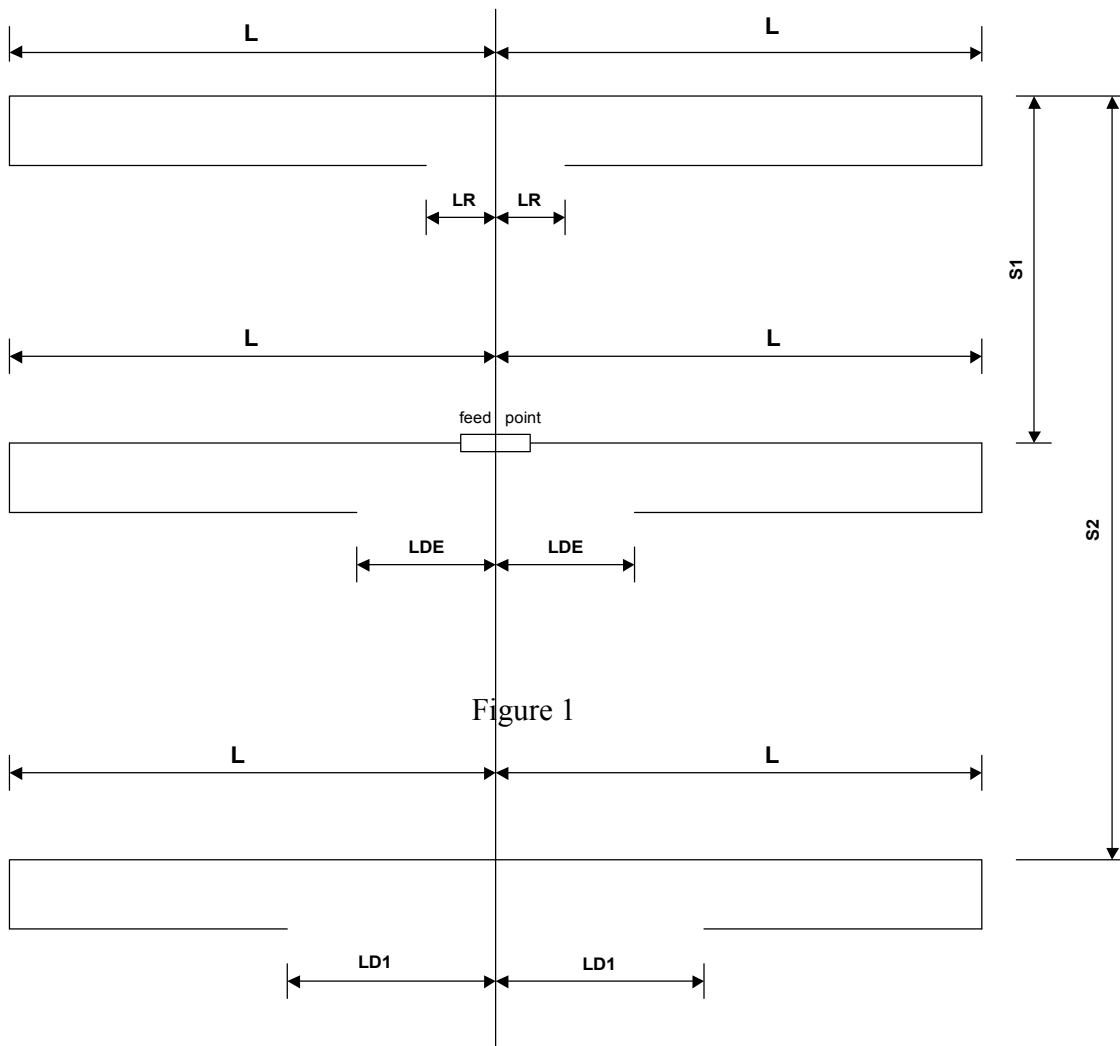

Figure 1
The following beam designs below utilize linear loaded *equal physical* length elements. (*i.e.* the overall length (L) of each element is identical and the length of the cutback (LR, LDE, or LD1) is used to tune the respective element. The following definitions are for Figure 1 and the 6 and 2 Meter beams shown below.